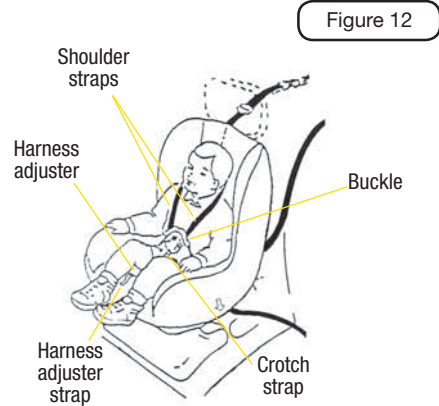

Figure 12
- Step 1: Lengthen the harness in excess of what is needed before placing the baby in the car seat. To lengthen the harness, push the harness adjuster that is located at the front of the seat (see figure 12) whilst grasping both shoulder harness straps and pulling out till lengthened to the desired amount. Ensure shoulder straps are pulled equally on each side.